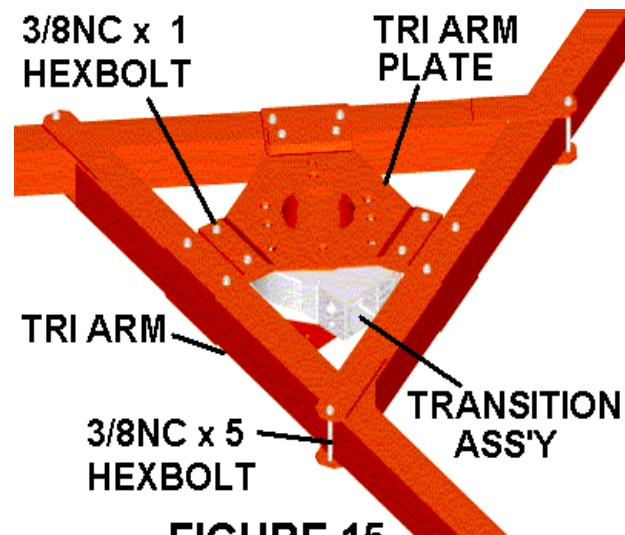

FIGURE 15
1. Position the transition assembly inside the triangle formed by the tri-arms. Bolt one corner of the transition assembly top plate to an arm with (2) 3/8" x 5" hex bolts. Bolt the other two corners to the other arms using a drift punch to line up the holes. It may be necessary to bump the ends of the arms in or out where they overlap each other. See Figure 15.